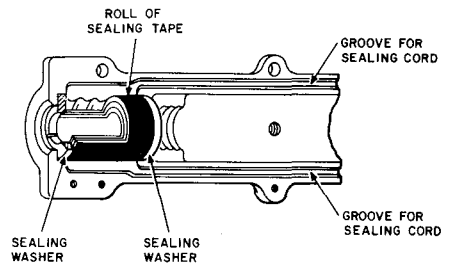

Fig. 16—Collar Placed in Splice Case
- 4.07 Place the back splice case so the B sealing tape collars are firmly seated and the inner sheath clamps are centered in the grooved seat of the splice case (Fig. 16).